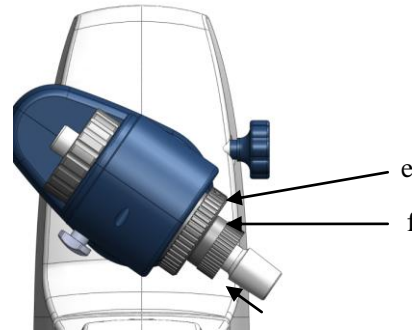

Figure 9
- Open the locking device on the drive head by turning it 60 °counter clockwise (e), (Figure 9).
piston ground-in connections (Figure 9).